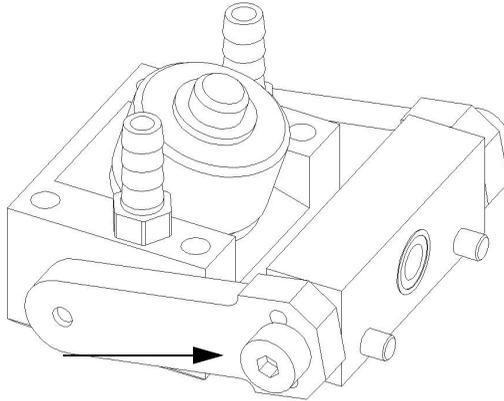

Figure 4-3 The screw that secures the yoke assembly
7. Using a hex socket-head screwdriver, remove the screw (on the side of the yoke) that holds the parts together (see Figure 4-3 on page 32).